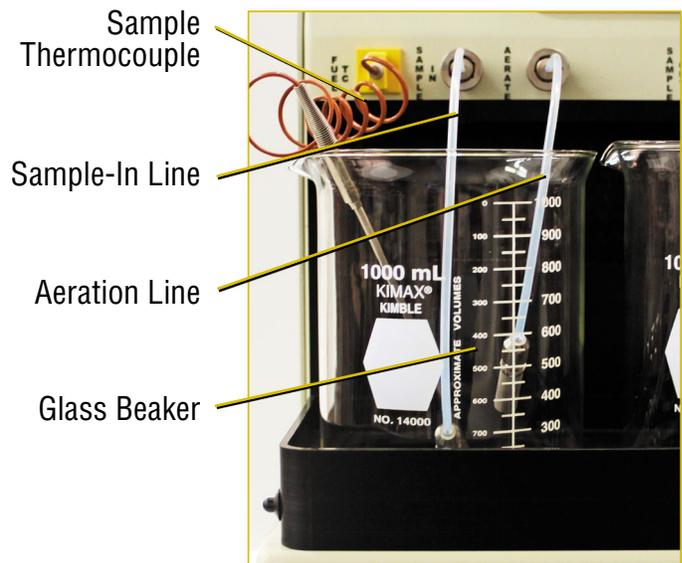

Figure 9 Sample-In Beaker Area
1. Place a clean, empty glass beaker in the sample-in position at the left of the sample container area. Connect the aeration line and the sample-in line to the appropriate fittings on the front panel [Figure 9]. Fittings should be finger tight. Place the aeration and sample-in lines into the glass beaker, letting end of